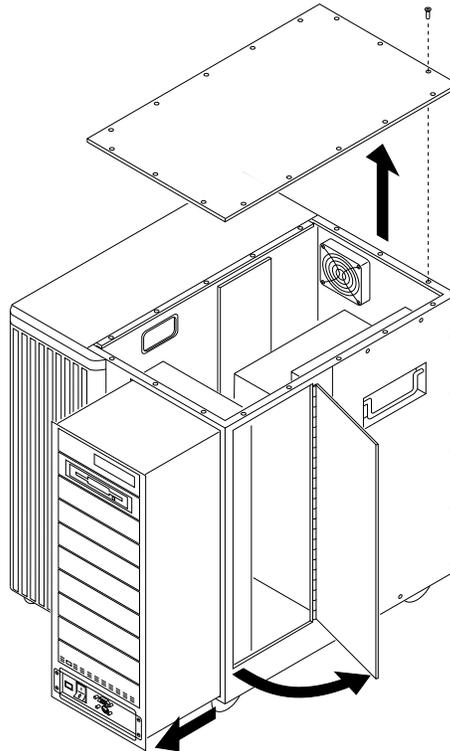

Figure 2-4. MAP/100 – Accessing the Top Connectors of the Power Supply
2. Remove the 17 flat-head screws from the perimeter of the top panel. See Figure 2-4.